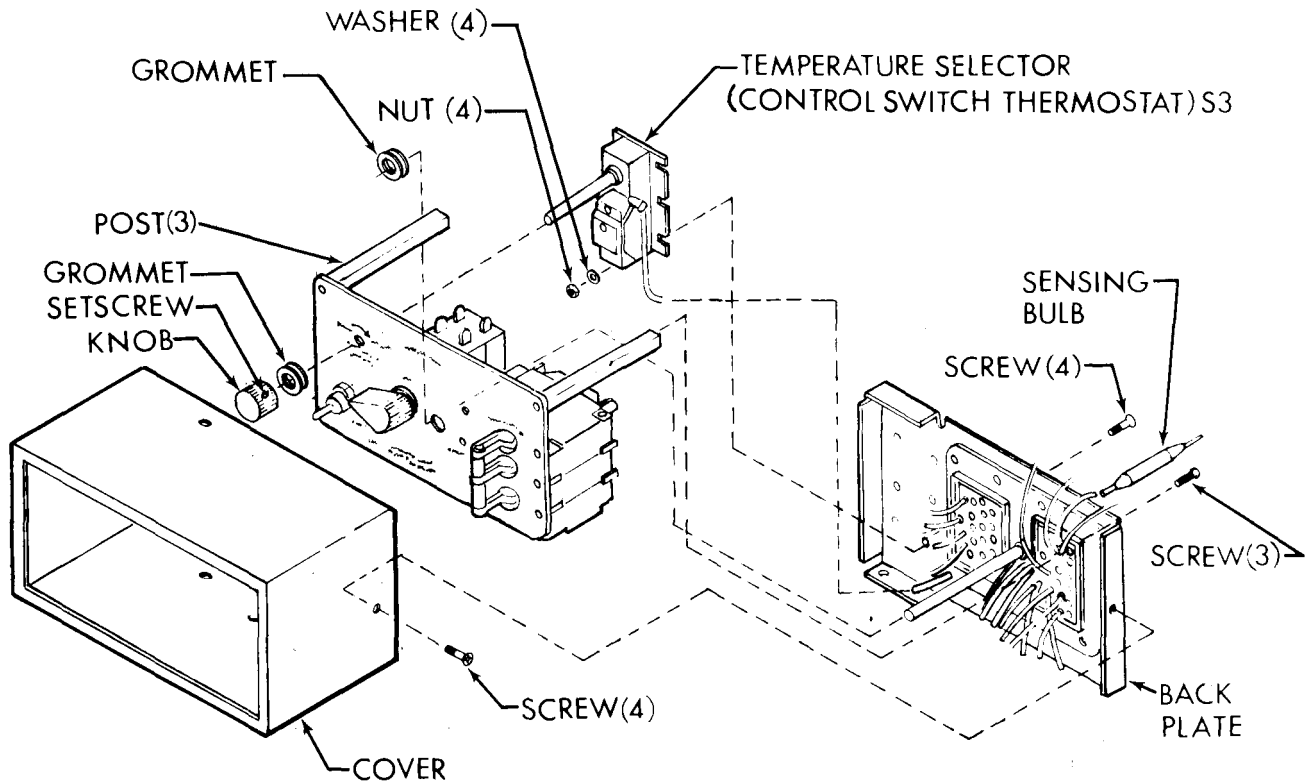

Figure 4-18. TEMPERATURE SELECTOR (Control Switch Thermostat) S3
The TEMPERATURE SELECTOR (control switch thermostat) S3 is located in the control module. (See fig. 4-18.)
- (1) Disconnect power at power source.
- (2) See para 4-21a and remove control module.
- (3) See fig. 4-18 and remove four screws and pull cover off.
- (4) Loosen setscrew in TEMPERATURE SELECTOR knob. Remove knob.